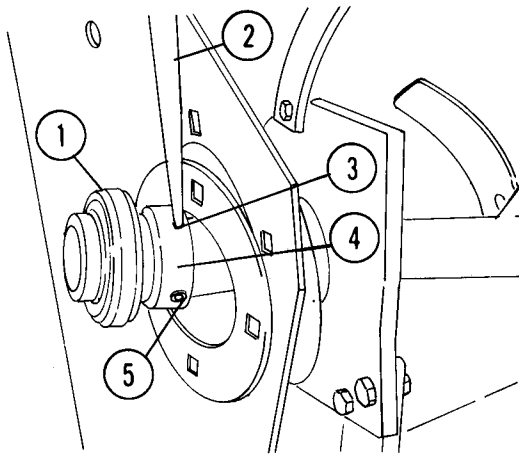

Fig. 28 — Left-Hand Tine Shaft End
4. Loosen set screw holding the locking collar on the left side of shaft, Figure 28. Using a hammer and punch tap the locking collar opposite the rotation of tine shaft until it comes loose from bearing, Figure 28.